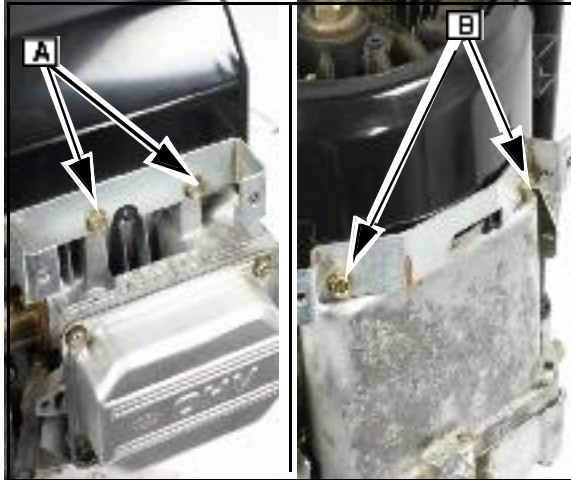

Fig. 8
6. Remove the two screws that secure the front housing bracket (A).
- Remove the two screws that hold the rear housing mounting bracket ([B] Fig. 8).